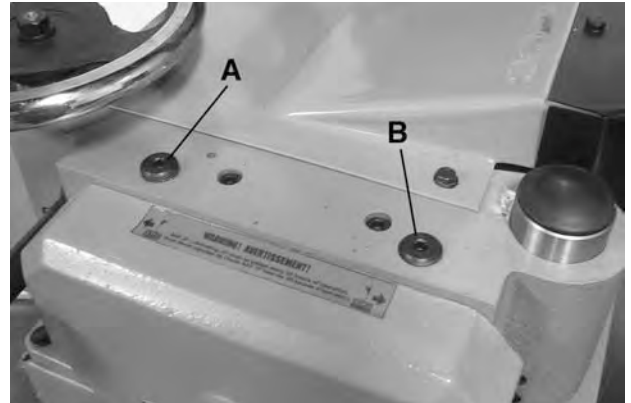

FIGURE 27
To adjust the spring tension of the infeed roller, turn two screws, one of which is shown at (A) Fig.27. The other screw is located on the opposite side of the machine. A good starting point to use in setting the spring tension of the infeed roller is to adjust the two screws (A) until there are **FOUR** threads showing above the table casting. To increase or decrease the spring tension further, adjust screws (A).
To adjust the spring tension of the outfeed roller, turn two screws, one of which is shown at (B) Fig.27. The other screw is located on the other side of the machine. A good starting point to use in setting tension of the outfeed roller is to adjust the two screws (B) until there is **ONE** thread showing above the table casting. To increase or decrease the spring tension further, adjust screws (B).